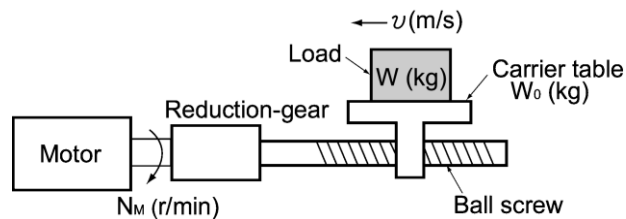

Figure 10.3-1 Moving a Load Horizontally
A simplified mechanical configuration is assumed as shown in Figure 10.3-1. If the mass of the carrier table is  $W_0$  (kg), the load is  $W$  (kg), and the friction coefficient of the ball screw is  $\mu$ , then the friction force  $F$  (N) is expressed as follows, which is equal to a required force for driving the load:
Assume a carrier table driven by a motor as shown in Figure 10.3-1. If the table speed is  $v$  (m/s) when the motor speed is  $N_M$  (r/min), then an equivalent distance from the shaft is equal to  $60 \cdot v / (2\pi \cdot N_M)$  (m). The moment of inertia of the table and load to the shaft is calculated as follows: